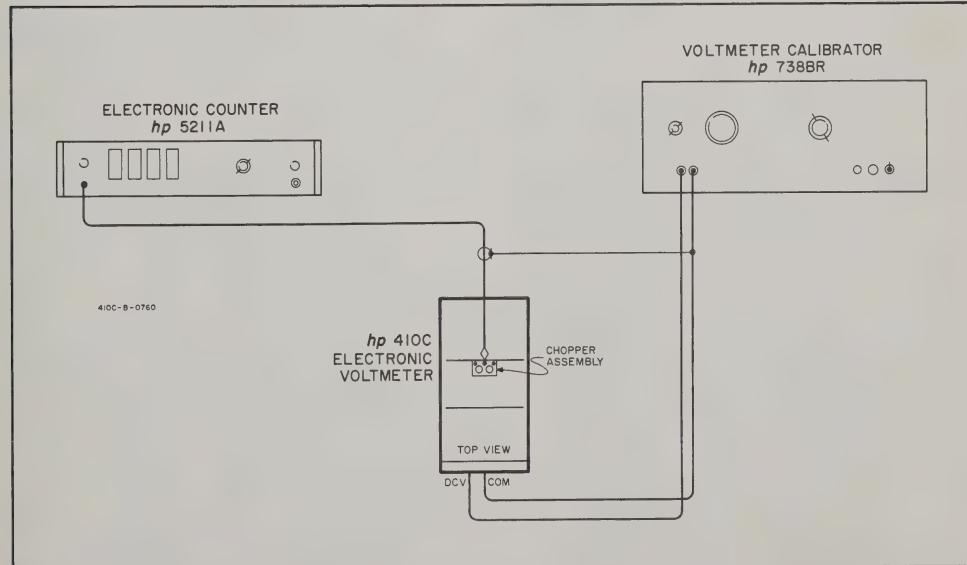

Figure 5-6. Chopper Frequency Adjust Setup
- c. Connect Model 410C, electronic counter, and voltmeter calibrator as shown in Figure 5-6.